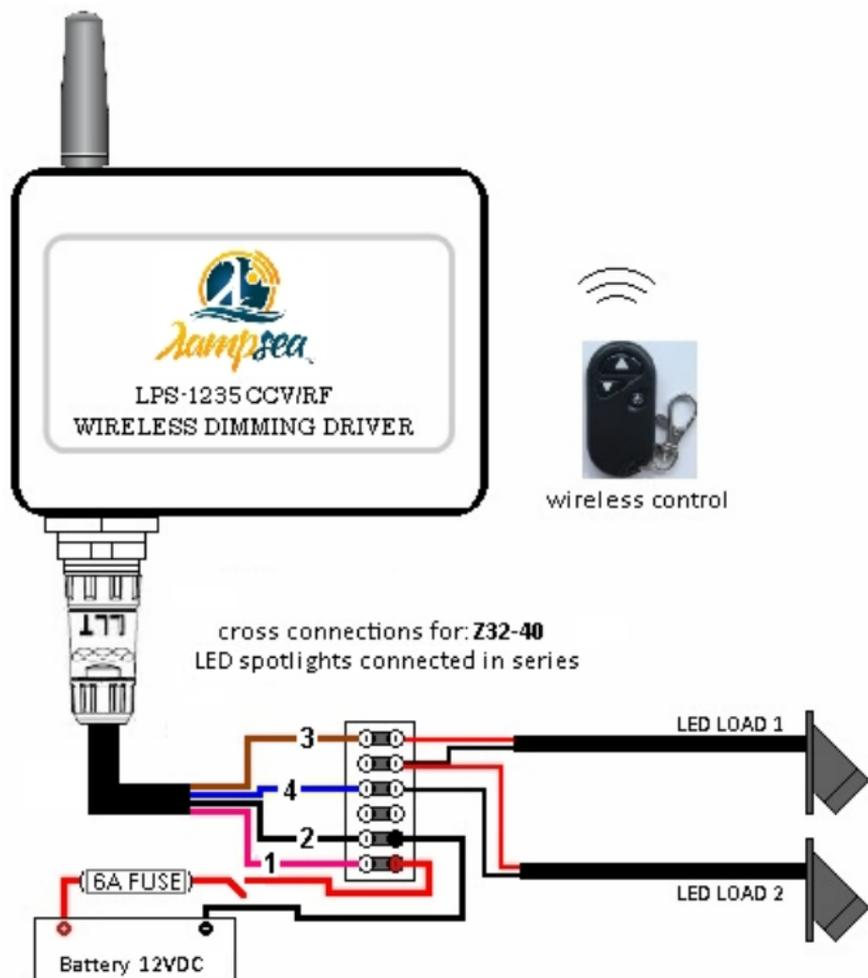

Figure 10
- Always use a separate fused switch to control your spotlights. Check Figure 10.